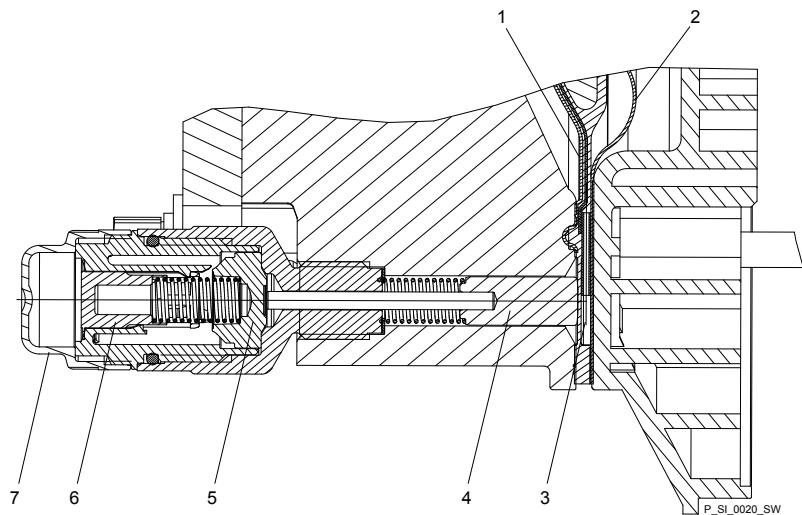

Fig. 40: Section through the Sigma diaphragm rupture warning system ("Visual break indicator" version)
2. ► If the piston of the diaphragm rupture sensor - see Fig. 40, item 4 - should have become dirty or damp, clean both it and the hole in which it runs.